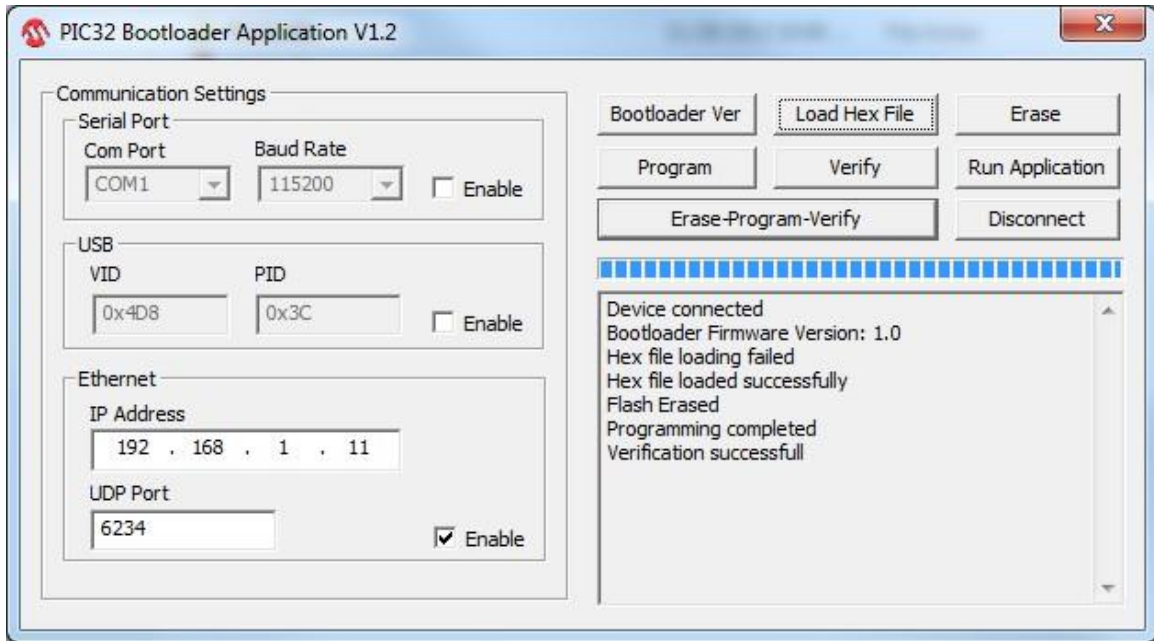

Figure 40: Erase Program Verify
6. Press “Erase-Program-Verify” button. Successful loading will be indicated by the bootloader software similar to Figure 40.